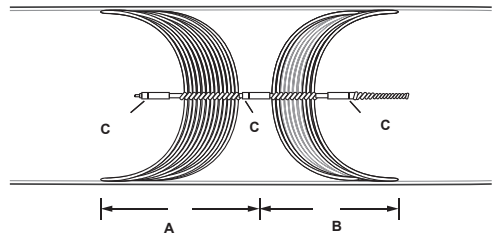

Figure 3: Position and Detachment Zones (Caterpillar™)
- The Caterpillar™ Arterial Embolization Device can only be re-positioned when the Detachment Zone is still in the delivery catheter (Figure 3). If the Detachment Zone is deployed, but
9	Once the loader is removed, continue to use the delivery wire to advance the device into the catheter under fluoroscopic guidance until the distal radiopaque marker is at the distal tip of the catheter (Figure 3, C).